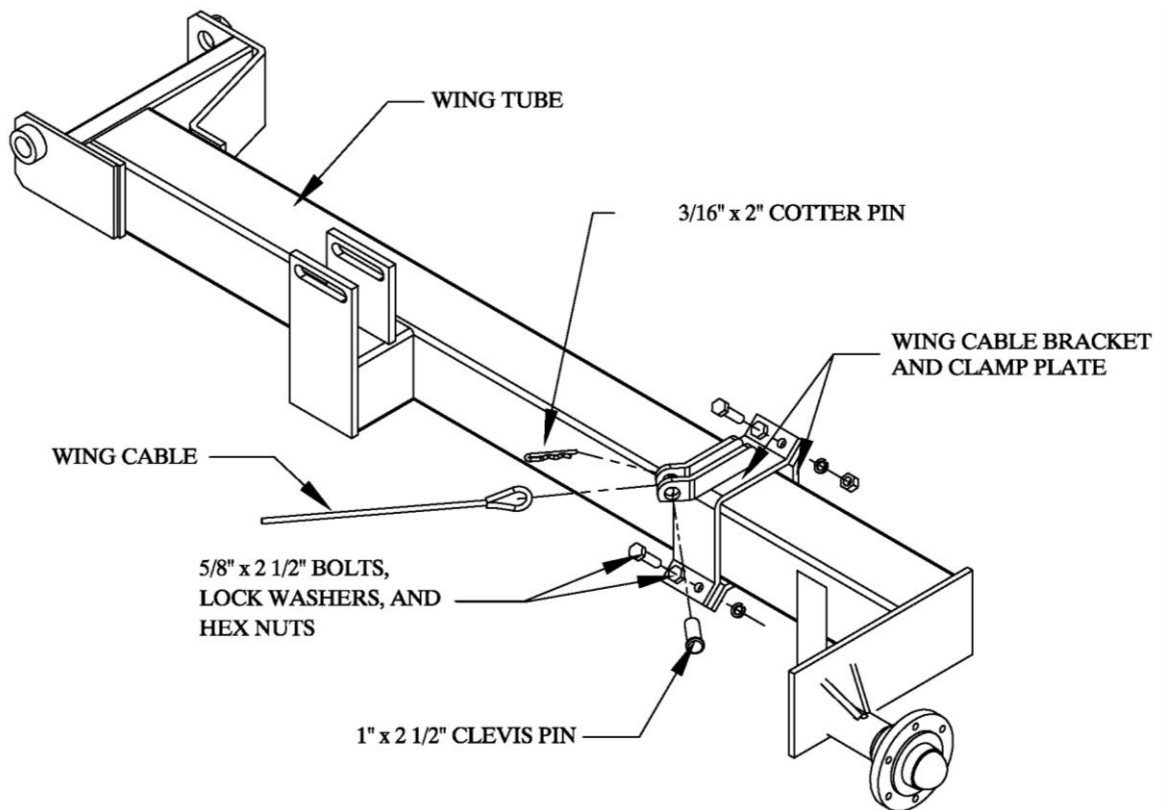

Figure 21
3. Pin the wing cable bracket to the free end of the wing cable using a 1 " x $2\frac{1}{2}$ " clevis pin and $\frac{3}{16}$ " x 2 " cotter pin. Refer to Figure 21.